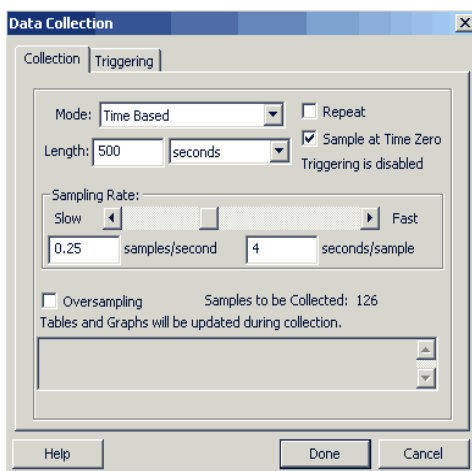

Figure 1. Setting the sampling time interval and total experiment length.
3. Click Data Collection . The kinetic runs will be done using time based mode. Choose a Length and Sampling Rate as given in the Procedure, Figure 1. Click Done. You may need to change these settings to fit your own particular runs after your first trial data set.